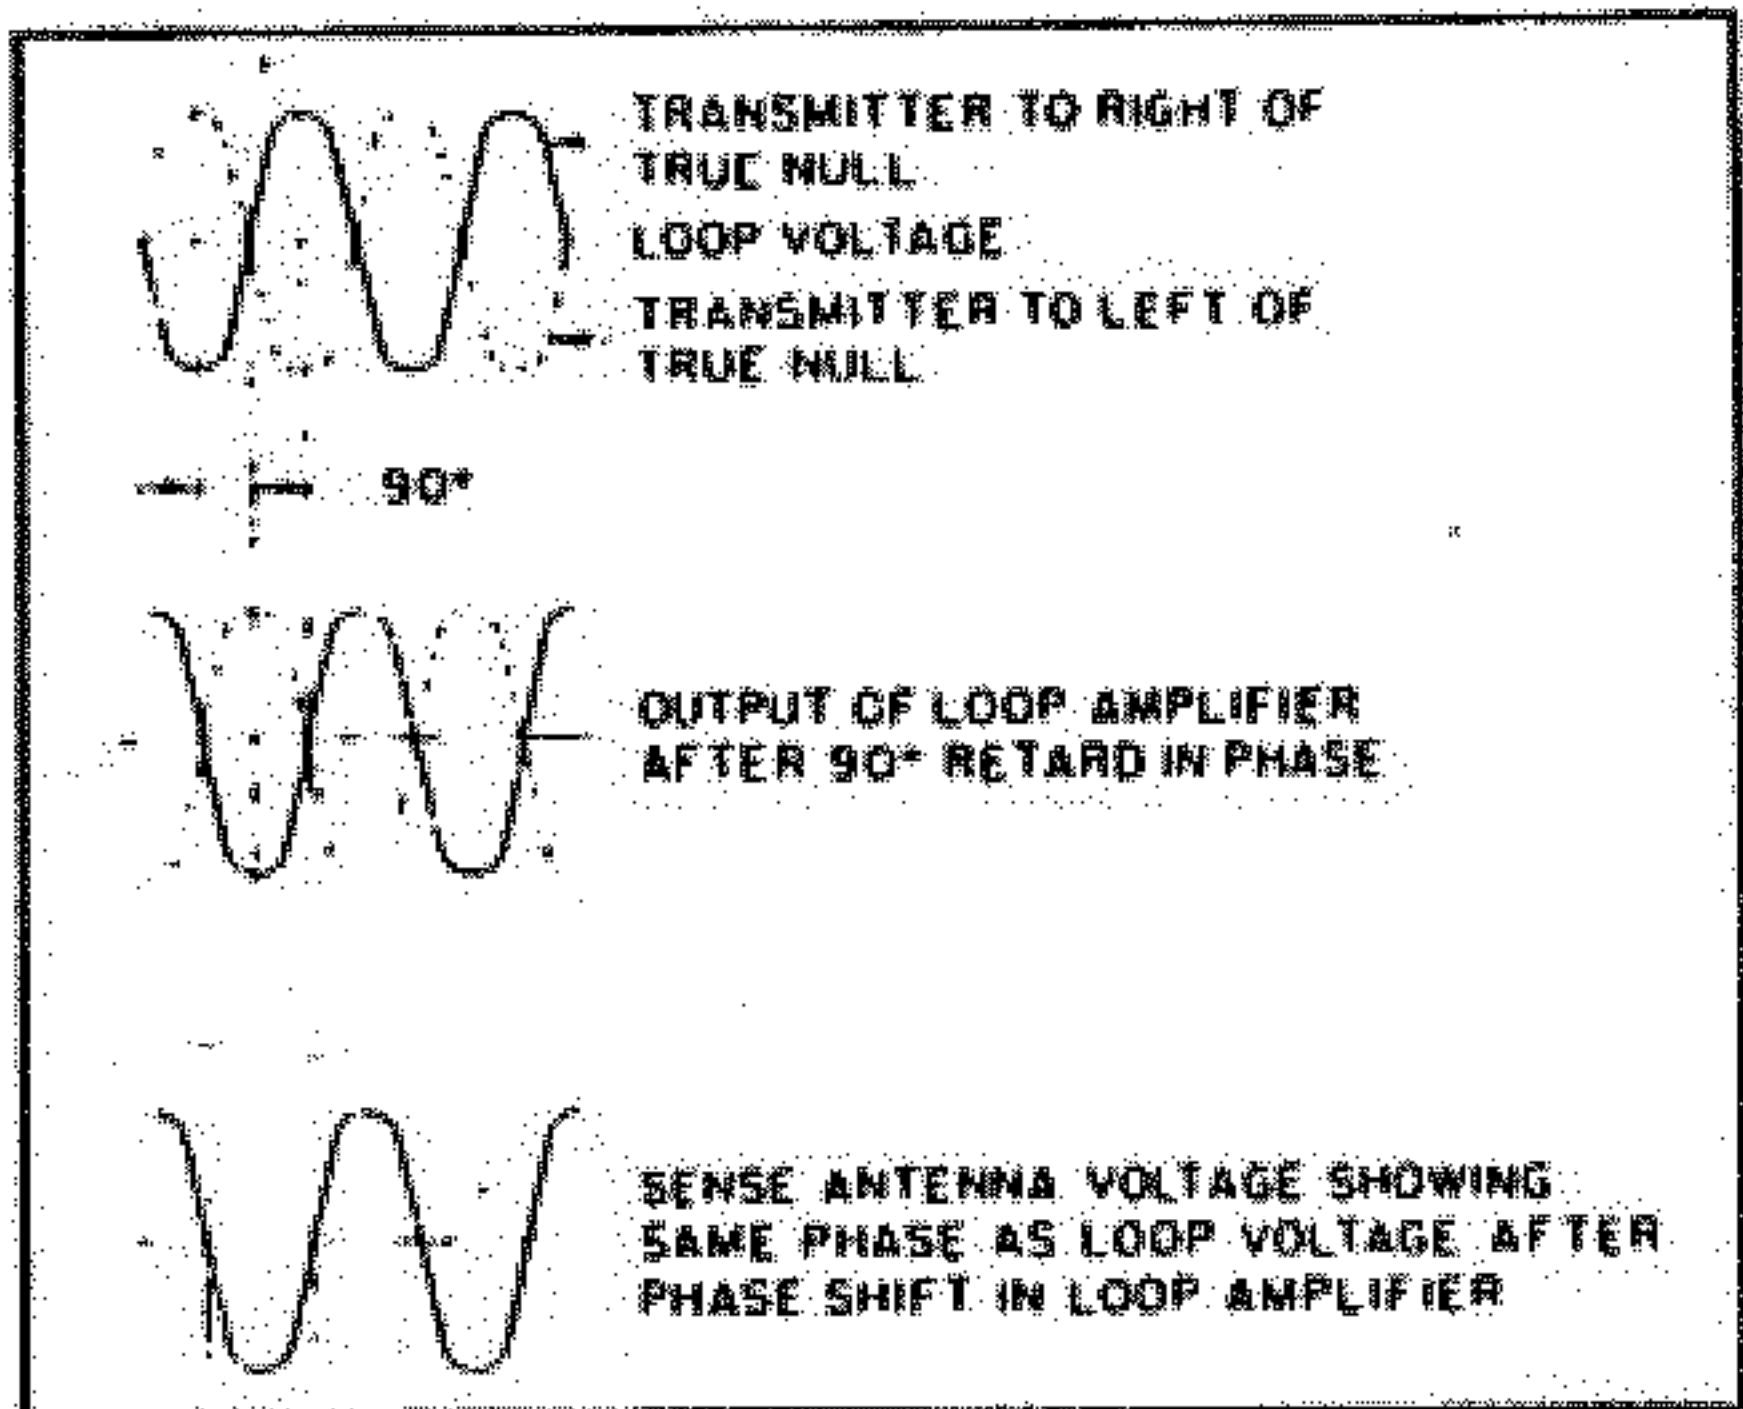

Figure 4-3. Phase Relations, Loop and Antenna Circuits
(2) **COMPASS OPERATION.** (See figures 4-3, 4-4, 4-5, and 4-6.)
or in phase opposition to the voltage received by the sense antenna depending on which edge of the loop is nearer the transmitter. This is shown in figure 4-3.